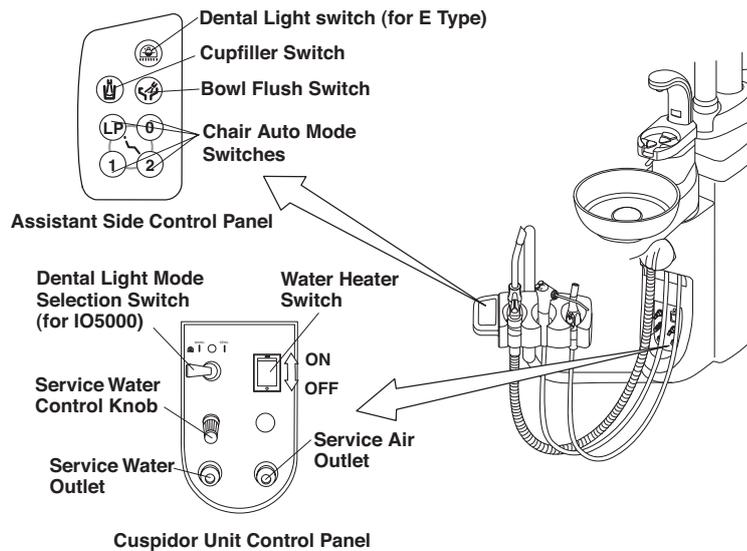

Fig.3-19 Assistant Side Control Panel and Cuspidor Unit Control Panel
(1) Assistant Side Control Panel (Fig.3-19)
(2) Cuspidor Unit Control Panel (Fig.3-19)
B. Water Heater Switch (Fig.3-19)
C. Service Water Outlet (Fig.3-19)
D. Service Water Outlet Control Knob (Fig.3-19)
E. Service Air Outlet (Optional) (Fig.3-19)